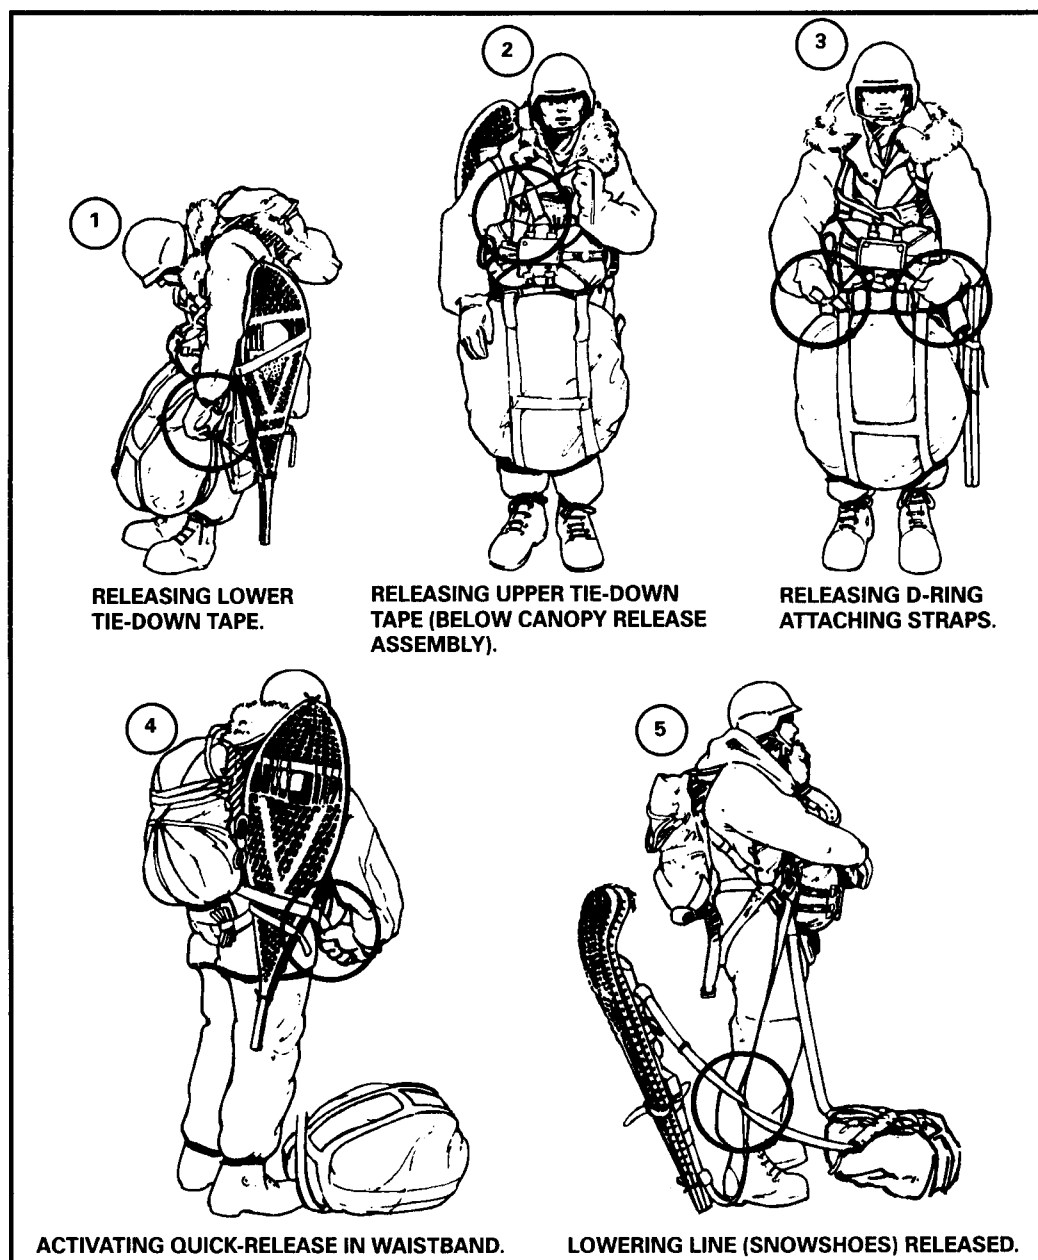

Figure 13-10. Arctic equipment released and lowered.
d. The upper bowknot (below canopy release assembly) and the lower tie-down tape around the parachutist's leg are untied, and the load is dropped by pulling the free-running ends of the D-ring attaching straps. This ensures that the pack load falls the length of the line. The modified waistband quick-release fold is pulled and releases the snowshoes, which slide down the lowering line on top of the pack (Figure 13-10).